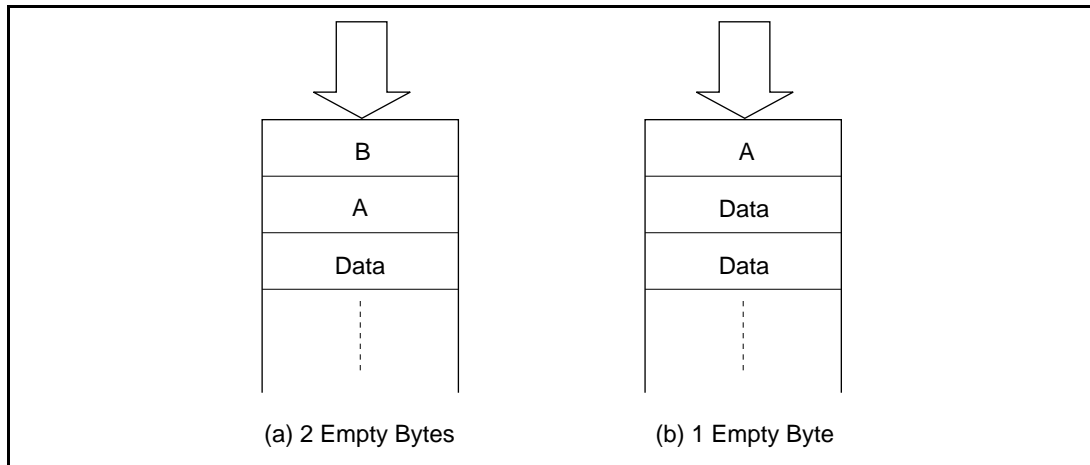

Figure 5.9 Empty Data Byte Arrangement in Transmit Buffer
3. Empty bytes A and B are arranged in the order as shown in figures 5.9 (a) and (b). The transmit buffer sends A and B to the serial unit in that order.